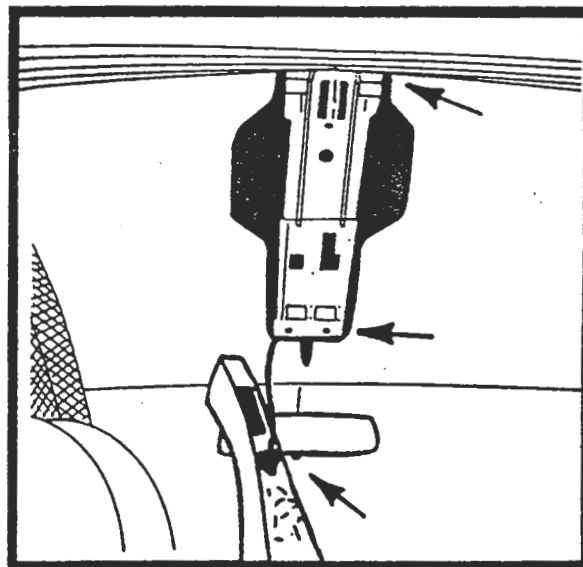

FIGURE 2
3. Disconnect wiring harness from console. See fig. 2.
5. Remove and discard (4) four screws which secure the mini-trip computer to console. Retain computer and bezel for use later.
6. Remove and discard (4) four screws which secure brace to roof of vehicle. Discard brace. See figure 2.